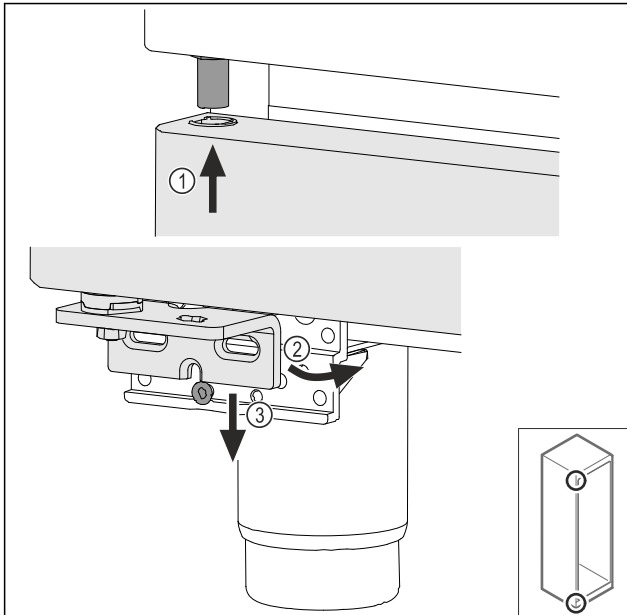

Fig. 42
- ▶ Insert the door slightly tilted at the top Fig. 42 (1), align the door straight Fig. 42 (2) and place it on the bottom of the swap bearing block screw Fig. 42 (3).